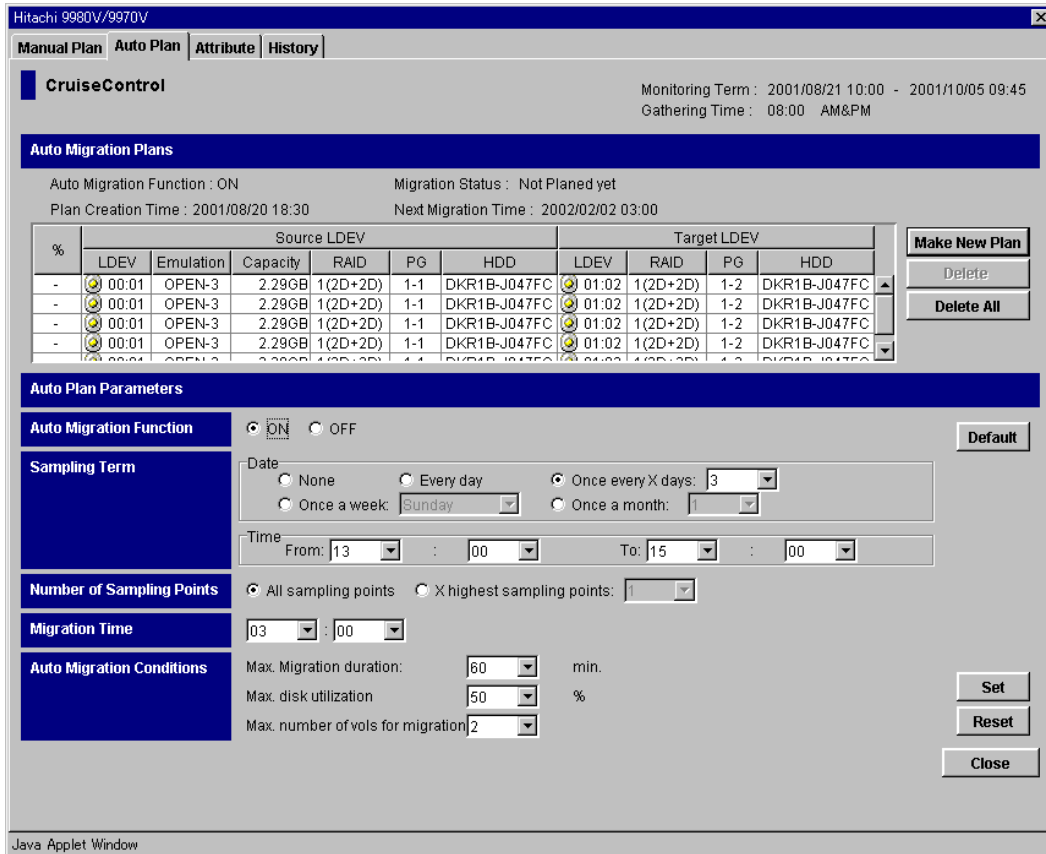

Figure 5.12 The Auto Plan Tab
2. From the Hitachi CruiseControl panel, click the **Auto Plan** tab (see Figure 5.12).
1. From the **CruiseControl Panel**, click the **Auto Plan** tab (for details, refer to Figure 5.12)